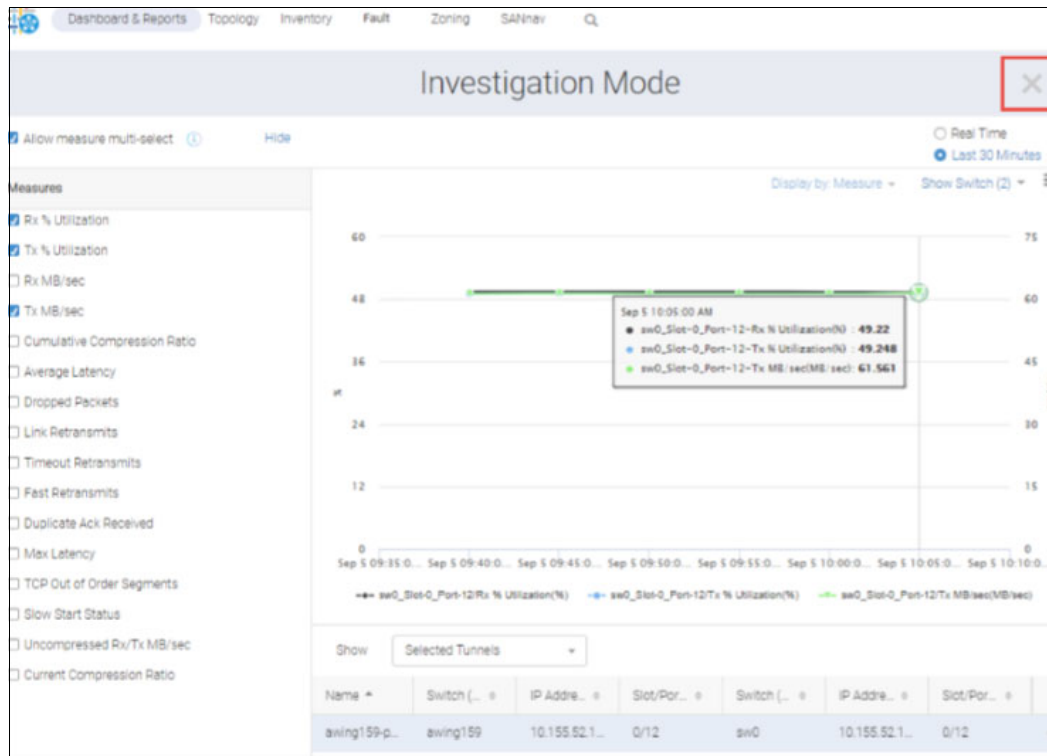

Figure 9-24 Investigation Mode dialog for a tunnel
- Using Investigation Mode, you can see trends over time. Figure 9-24 shows the Investigation Mode window for a tunnel. Click the **X** in the upper right of the window to return to the Dashboard View.